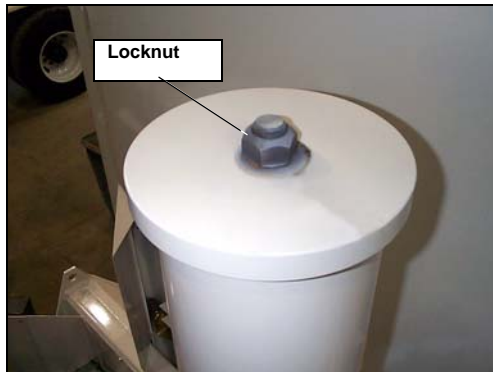

Figure 124. Top of the body hoist
1. Remove the locknut located on top of the cylinder cover (Figure 124. "Top of the body hoist").